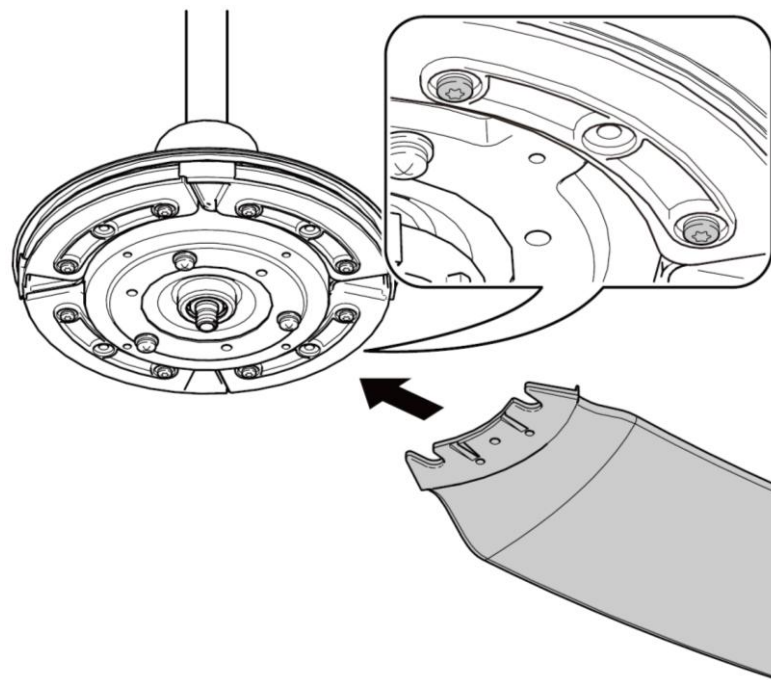

Fig. 5.2
2. Insert the fan blades into the side of the motor assembly. (Fig.5.2)